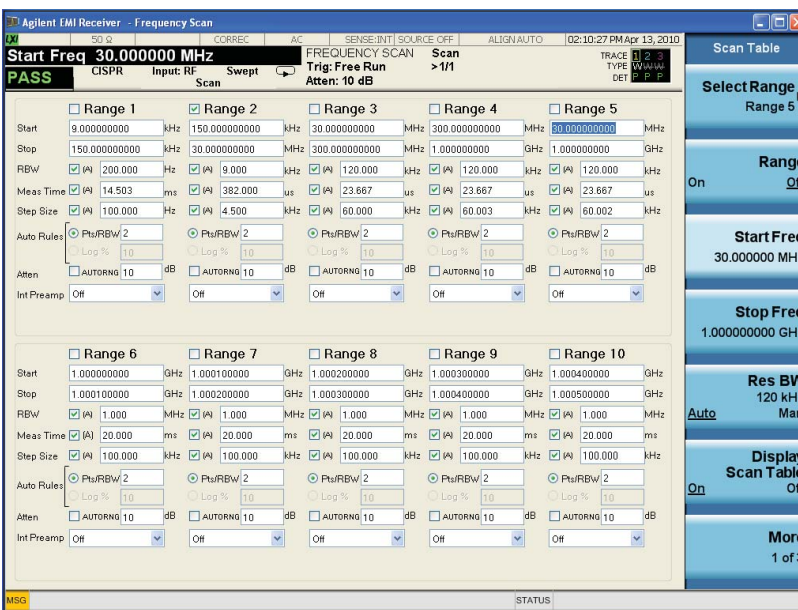

Figure 5. Scan table
- Next, be sure you are measuring within the appropriate frequency range for conducted emissions measurements, 150 kHz to 30 MHz. Agilent's EMI measurement application uses a scan table to make it easy to select the appropriate frequency range as shown in Figure 5. Deselect any other ranges that are selected.